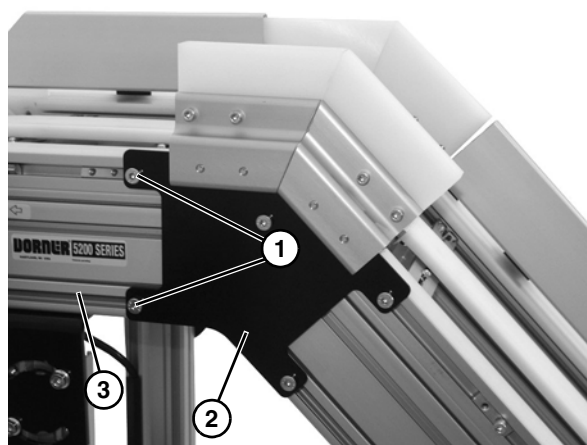

Figure 8
1. Attach upper knuckle to frame by loosening two socket head capscrews (**Figure 8, item 1**) on each side of upper knuckle assembly (**Figure 8, item 2**), and sliding T-Nuts into straight frame section (**Figure 8, item 3**).